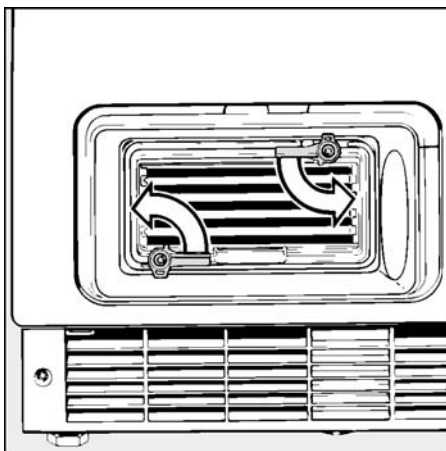

Figure 3-2: Positioning the Heater Exchanger Levers
4. Turn both levers on the heat exchanger so that they are vertical (as shown in figure 3-2).